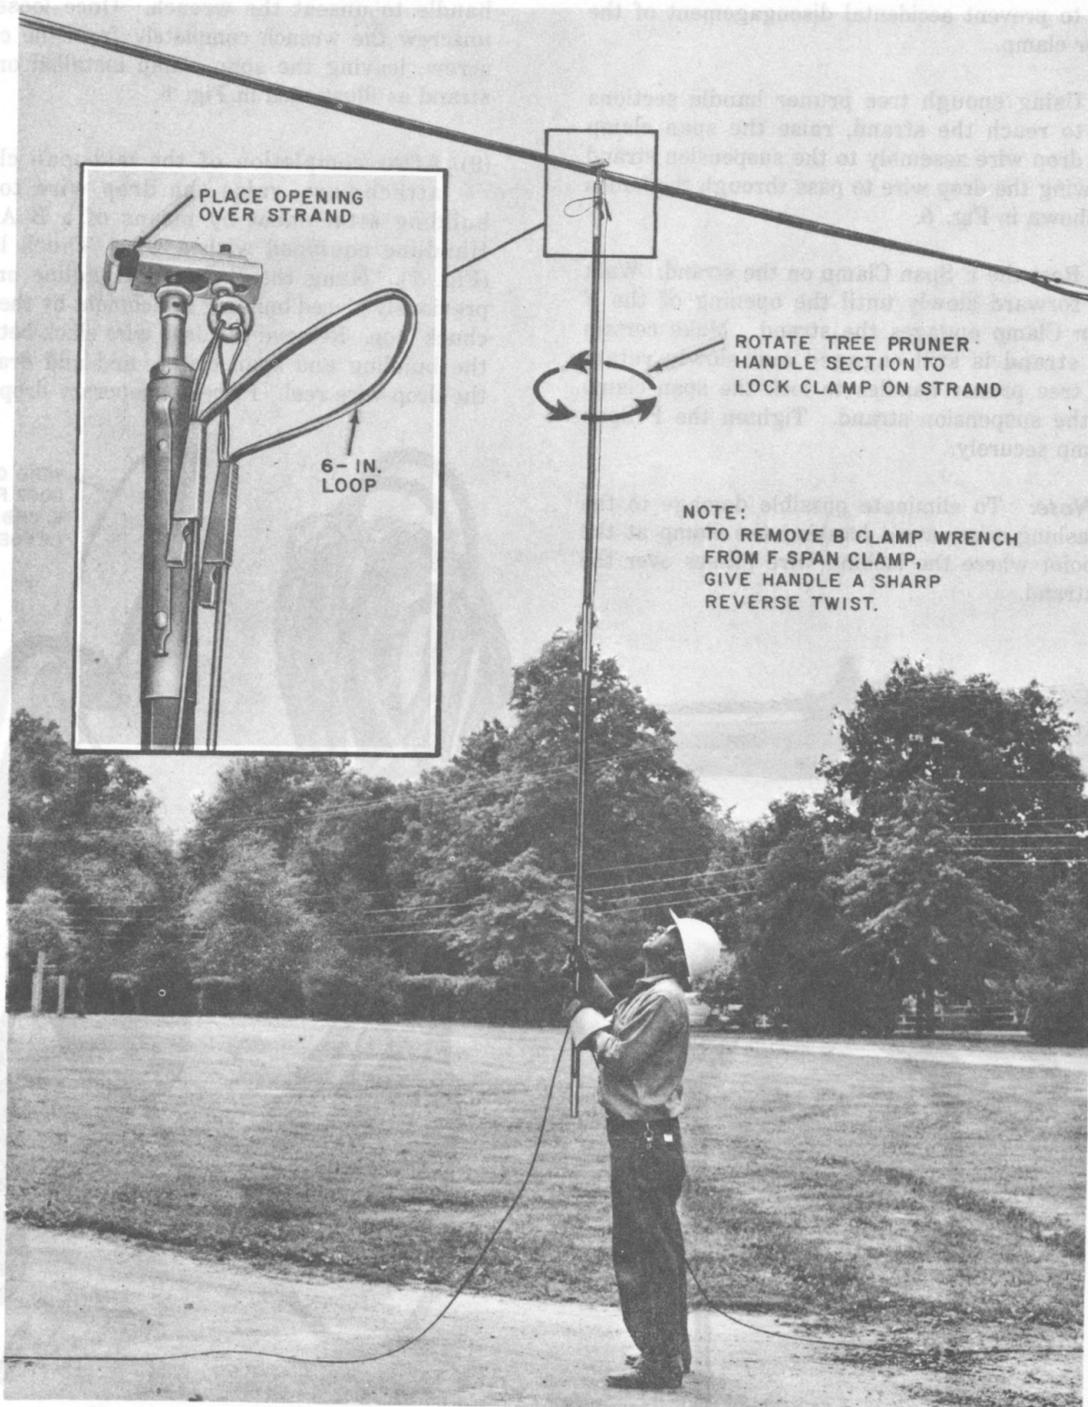

Fig. 5—Raising Span Clamp Assembly to Strand
clamp location on the strand. Leave a 6-inch loop between the drop wire clamps (Fig. 5).
(5) Place the drop wire clamp assemblies on the hook of the F Span Clamp. The drop wire clamp toward the building attachment should be placed last to prevent accidental disengagement of the other clamp.
(6) Using enough tree pruner handle sections to reach the strand, raise the span clamp and drop wire assembly to the suspension strand allowing the drop wire to pass through the hands as shown in Fig. 5.
(7) Rest the F Span Clamp on the strand. Walk forward slowly until the opening of the F Span Clamp engages the strand. Make certain the strand is still engaged and slowly rotate the tree pruner handles to lock the span clamp on the suspension strand. Tighten the F Span Clamp securely.